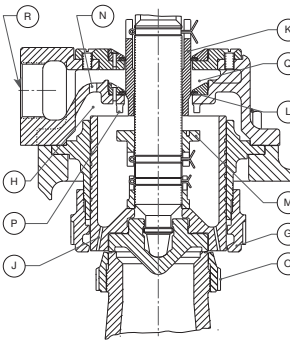
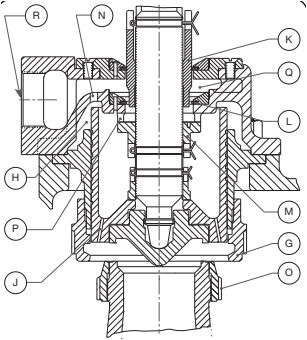

Figure 6: 100% Lift
Figure 7: Full Lift
In Figure 6, 100% lift is obtained by proper location of the upper and lower adjusting rings (G) and (I), respectively. When full lift is attained, as in Figure 7, lift stop (M) rests against coverplate (P) to eliminate hunting, thus adding stability to the valve. When the valve discharges in an open position, steam is bled into